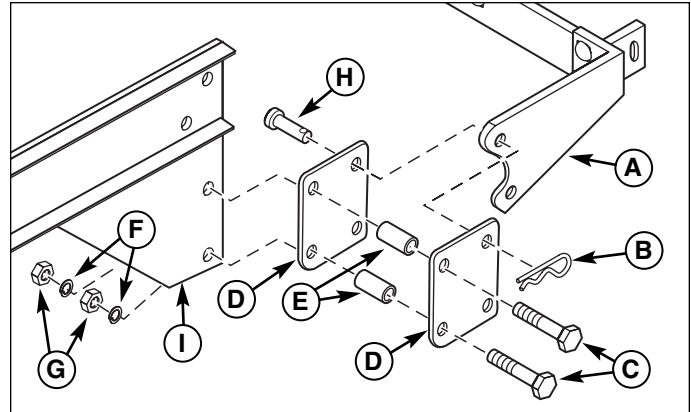

Figure 3. Hitch Standard Installation
1. Slide capscrews (C, Figure 3) through one inner support (D), spacers (E), a second inner support (D) and tractor frame (I). Secure with lockwashers (F) and nuts (G).
2. Install hitches and plate (A, Figure 3) by sliding clevis pins (H) through tractor frame (I) as shown, one inner support (D), hitch & plate (A) and second inner support (D). Secure with hair pin (B).